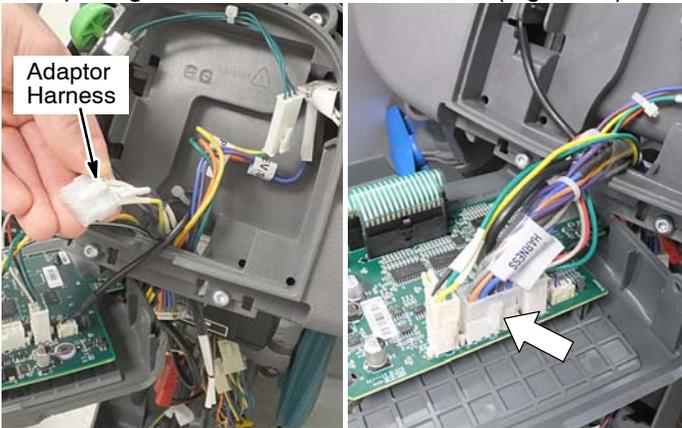

Fig. 18
5. Route the adaptor harness up through the harness opening and connect to control board (Figure 18)